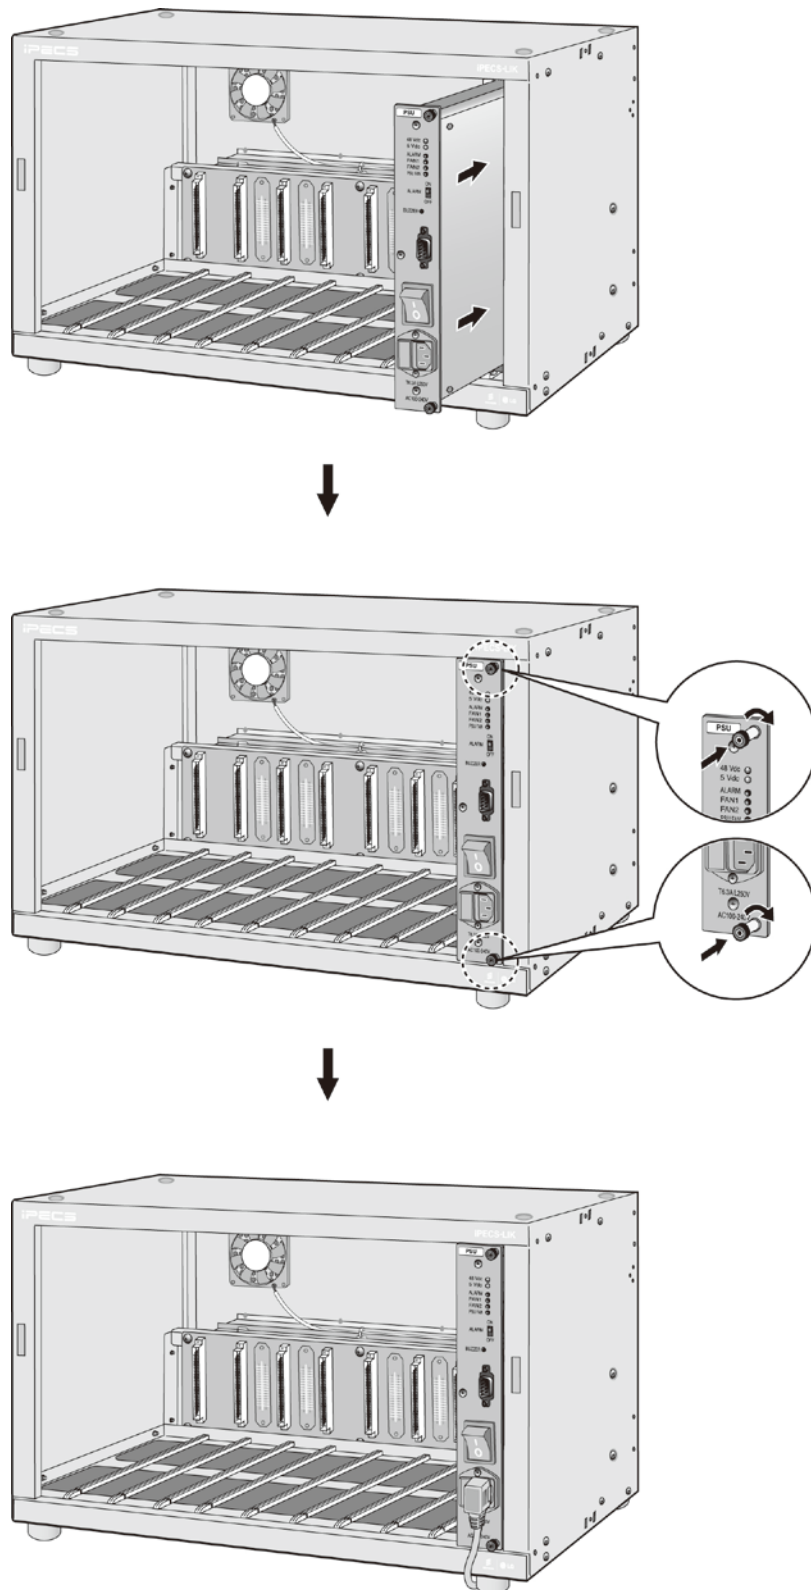

Figure 4.4-1 Main PSU Installation
The main PSU is installed as described below and shown in Figure 4.4-1.
- Install the main PSU as described above and shown in Figure 4.4-1.